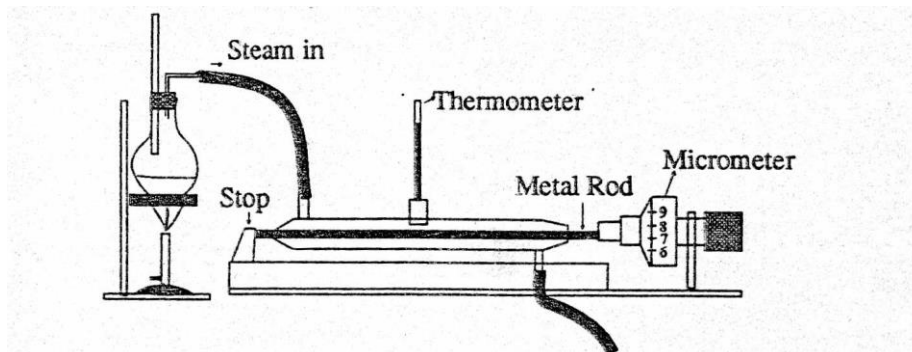

Fig. 11
**Apparatus** (see Fig. 11 below)